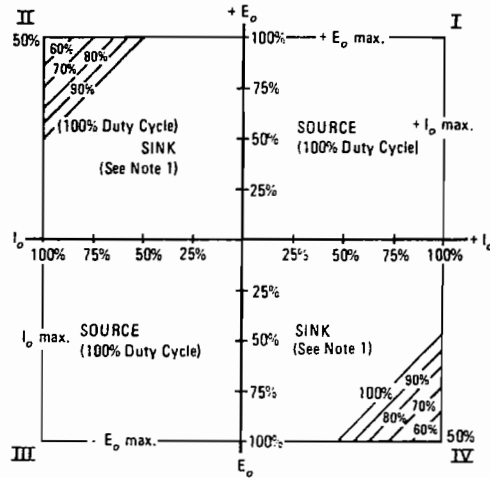

FIG. 1-2 BOP OUTPUT CHARACTERISTIC
- A) **OUTPUT RANGE:** The BOP can be locally (front panel) adjusted, or remotely programmed, from (-)100% to (+)100% of its specified d-c voltage and current range. The Class A bipolar output stage permits operation as either a SOURCE or a SINK. (See FIG. 1-2).